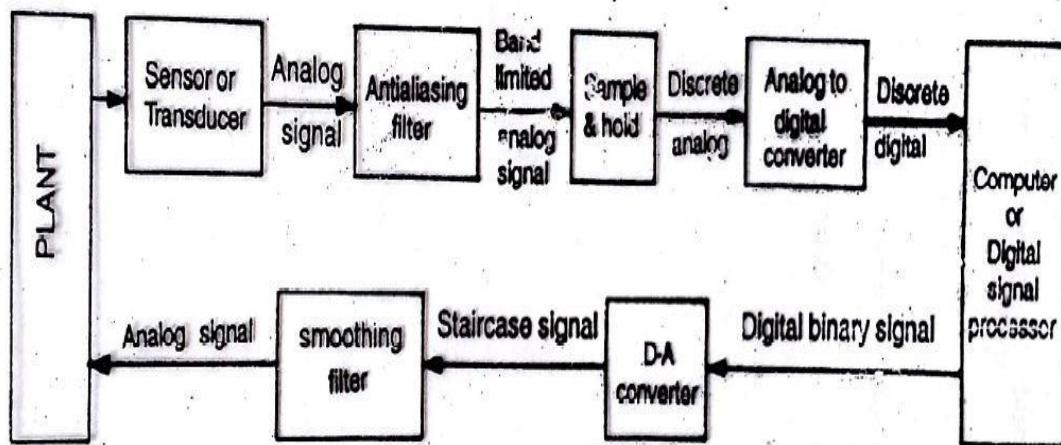

Fig. 10.1 Circuit showing application of A/D and D/A converter
- Figure 10.1, highlights a typical application within which A/D and D/A conversion is used.
- The scheme given in Figure 10.1 is used either in full or in part in applications such as digital audio recording and playback, computer, music and video synthesis, pulse code modulation transmission, data acquisition, digital multi meter, direct digital control, digital signal processing, microprocessor based instrumentation.